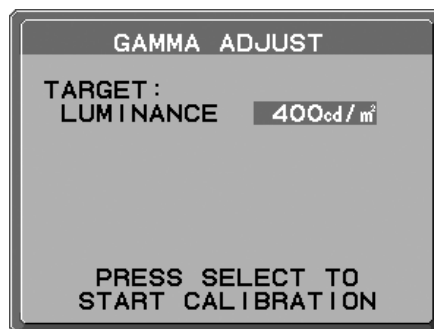

Figure 2
4. Set the target LUMINANCE (cd/m²) (**Figure 2**). Press SELECT to start the calibration. This may take several minutes depending on user setting.